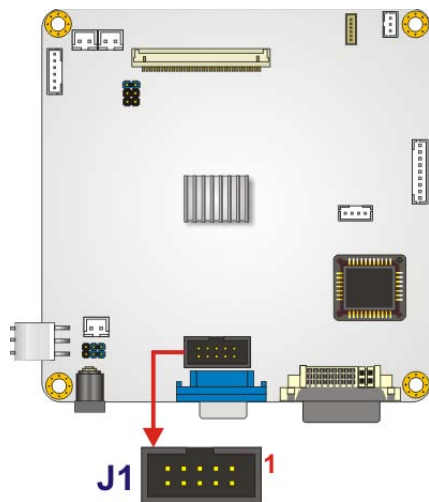

Figure 4-34: VGA Connector Location
- CN Location: See Figure 4-34